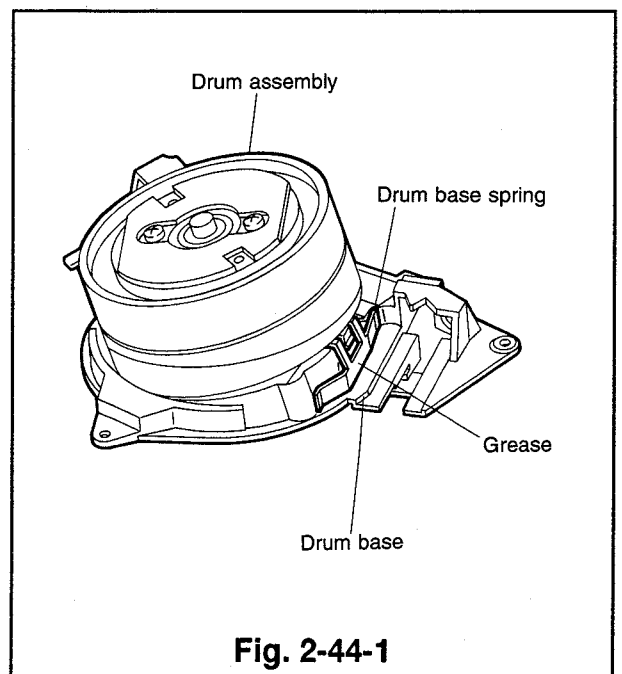

Fig. 2-44-1
- ① Remove the drum base spring between the drum base and the drum assembly. (Refer to Fig. 2-44-1.)
- ① Set the drum base spring in the gap between the drum base and the drum assembly. Make sure that the drum base spring is secure enough not to fall out.
- ② Apply grease(PG-641)[859D055O30] to the area of the drum base spring as shown in Fig. 2-44-1.